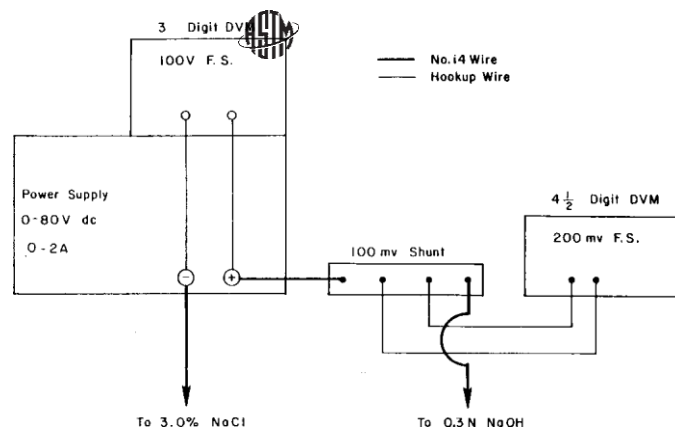

FIG. 5 Electrical Block Diagram (example)
electrical connections to voltage application and data readout apparatus as appropriate; for example, for system listed in 7.7.1-7.7.5, connect as shown in Fig. 5. Turn power supply on, set to 60.0
10.7 Read and record current at least every 30 min. If a voltmeter is being used in combination with a shunt resistor for the current reading (see Fig. 5), use appropriate scale factors to convert voltage reading to amperes. Each half of the test cell must remain filled with the appropriate solution for the entire period of the test.